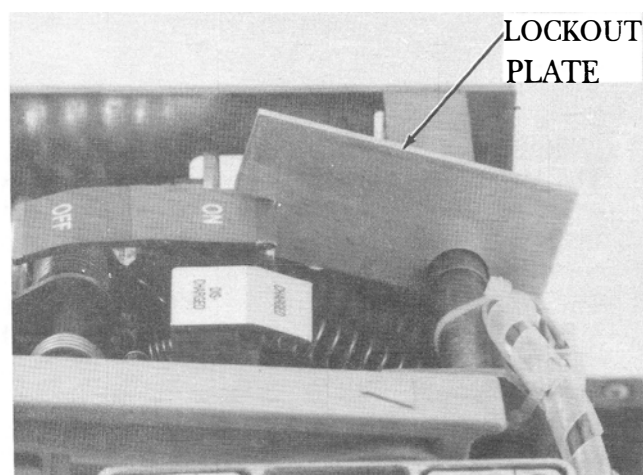

Figure 2. Flag lockout plate installed in breaker.
5. Hold the ON-OFF flag towards the ON position, then carefully insert the flag lockout plate to retain the flag in this position. The flag lockout plate should be installed close to the side frame on which the ON-OFF flag pivots and over the larger diameter portion of the mechanism cross pin. The installed flag lockout plate is shown in Figure 2.